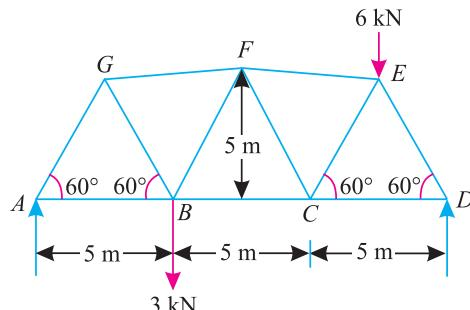

Fig. 14.13.
**Example 14.6.** Find graphically or otherwise, the magnitude and nature of the forces in the truss shown in Fig. 14.13.